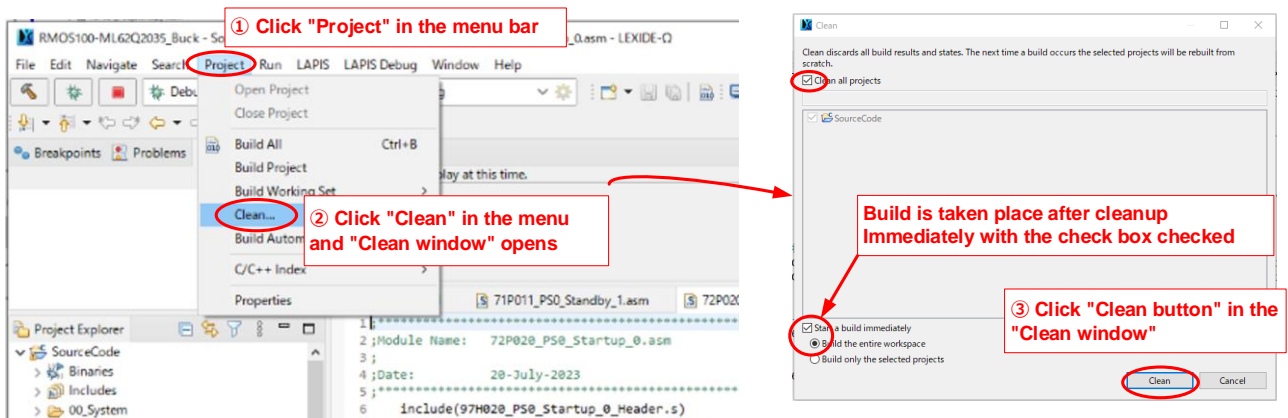

Figure 3-7. Build operation
(5) Building a Program
"Build" is used to convert a program created on LEXIDE-Ω into a program that can be written to a MCU on the buck converter EVK. To build, perform steps ① to ③ below as shown in Figure 3-7.